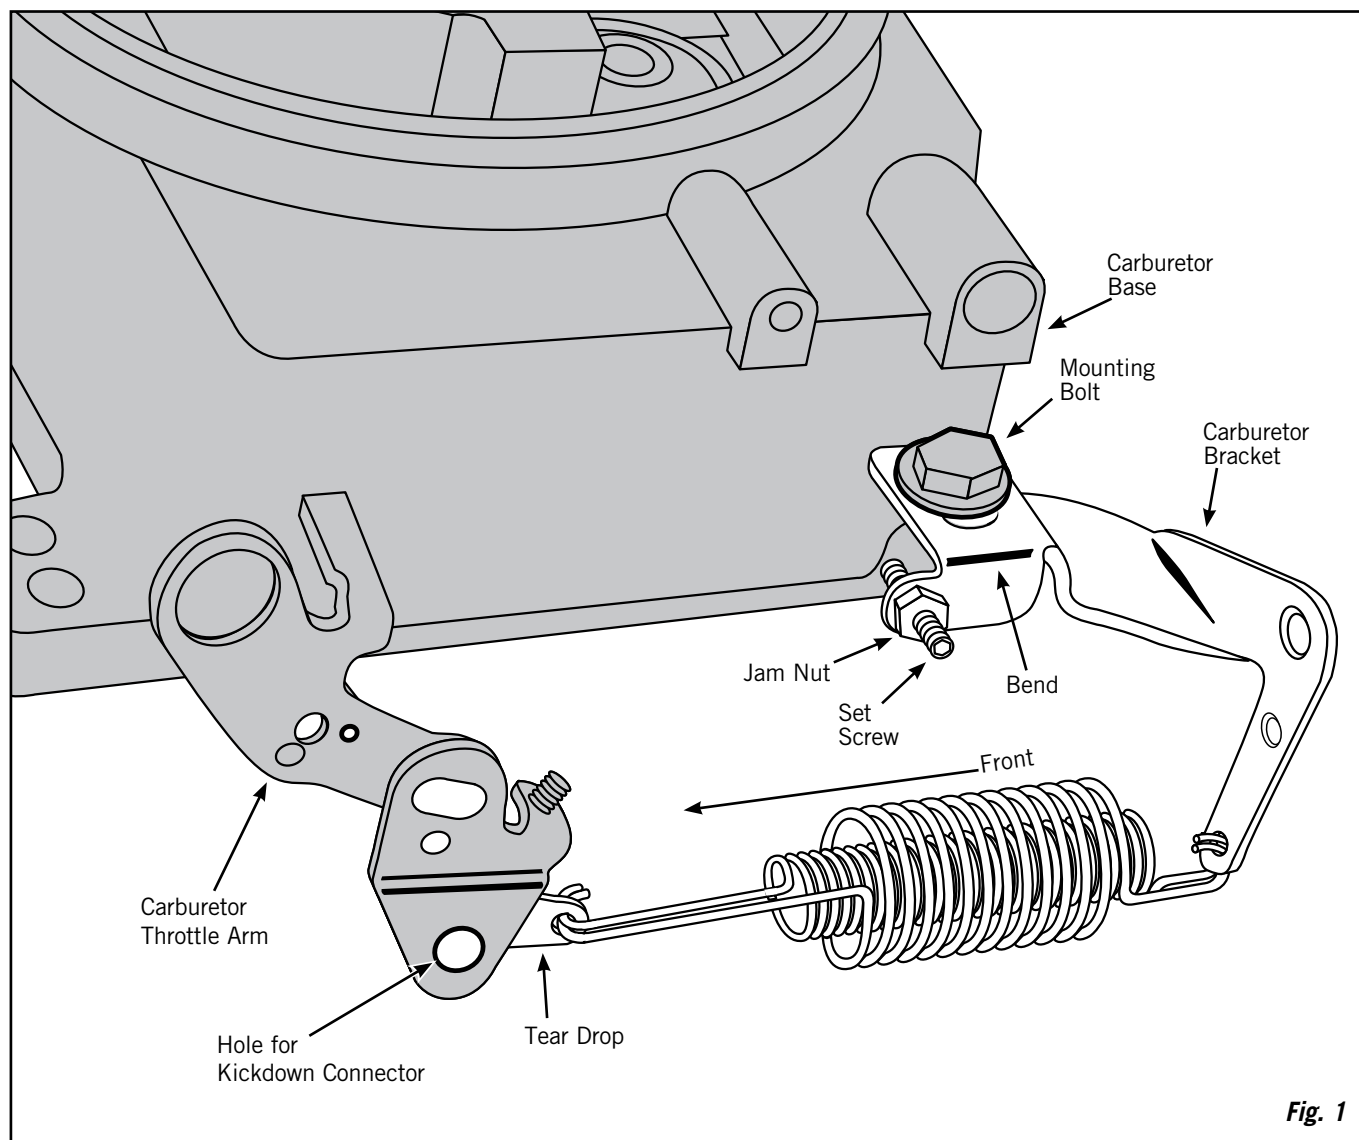

Fig. 1
Step 1: Remove the carburetor base mounting bolt from the left rear corner of the carburetor, and position the Lokar carburetor bracket as shown in **Fig. 1**. Install the carburetor base mounting bolt only finger-tight.
Step 2: Position the carburetor bracket so that the bend that is labeled in **Fig. 1** is parallel to the carburetor base front to back.